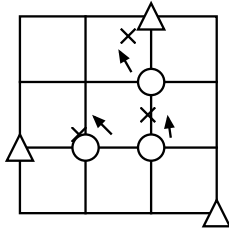

Figure 1: Indirect simultaneous positioning
1. Simulate an indirect simultaneous positioning of an extensible 2D object illustrated in Figure 1. Three points marked as circles on the object must be guided to their desired location marked as crosses by controlling the position of three manipulated points marked as triangles, as shown in the figure. You may assume that the control process is static. Introduce the discrepancy between physical parameters in control law and actual ones to discuss the robustness of the control law.